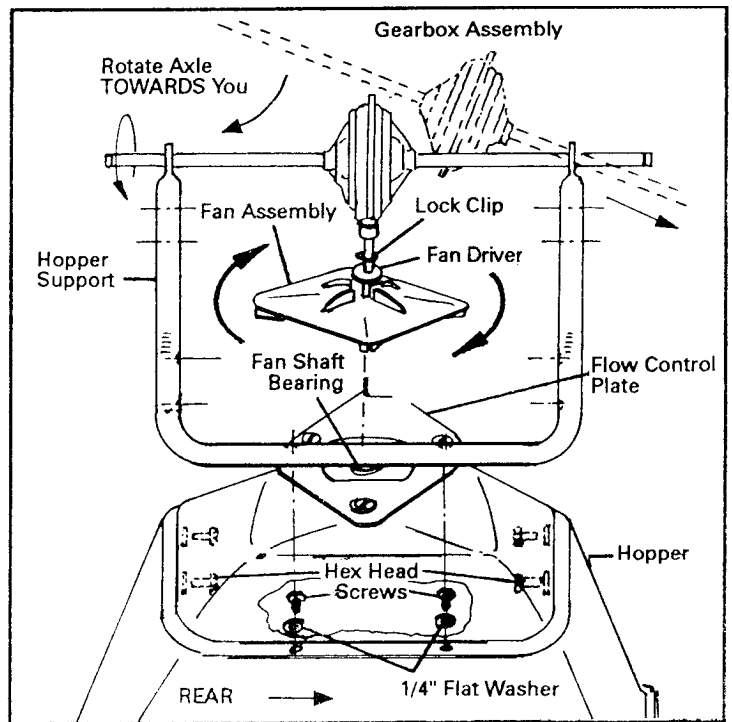

FIG. 4.
Refer to FIG. 4.
- NOTE: Again check the direction of rotation. While viewing the inside of Hopper from above, the Agitator MUST rotate COUNTER-CLOCKWISE, when pulling the unit forward. If the Agitator rotates clockwise, repeat the steps described in FIGURE 4.